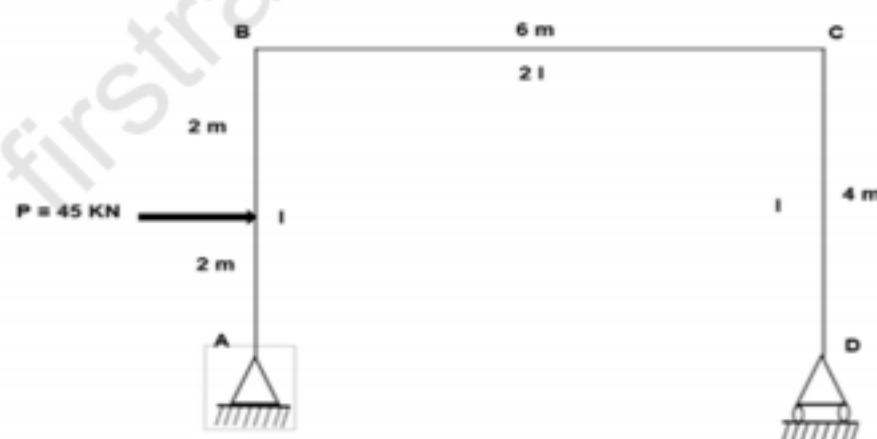

Fig.8
- b) Find the horizontal movement of the roller end D of the portal frame shown in Fig.8 Take $E = 2 \times 10^8 \text{ kN/m}^2$ and $I = 3 \times 10^4 \text{ m}^4$. The moment of inertia of the column section is I while that of beam is 2I.